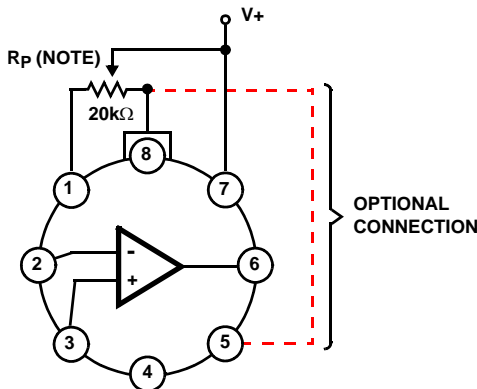

FIGURE 3. OFFSET NULLING CONNECTIONS
**Offset Voltage Adjustment (See Figure 3)**